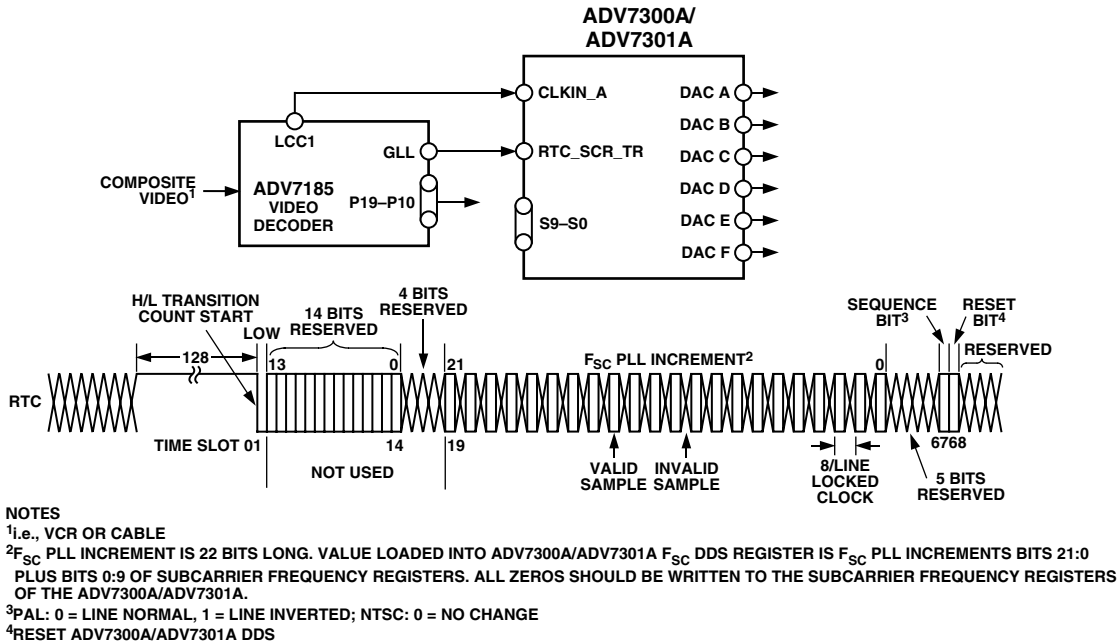

Figure 29. RTC Timing and Connections
- c. In RTC Mode, the ADV7300A/ADV7301A can be used to lock to an external video source. The Real-time Control Mode allows the ADV7300A/ADV7301A to automatically alter the subcarrier frequency to compensate for line length variations. When the part is connected to a device that outputs a digital data stream in the RTC format (such as a ADV7185 video decoder; see Figure 29), the part will automatically change to the compensated subcarrier frequency on a line-by-line basis. This digital data stream is 67 bits wide and the subcarrier is contained in Bits 0 to 21. Each bit is two clock cycles long. 00h should be written into all four Subcarrier Frequency Registers when using this mode.